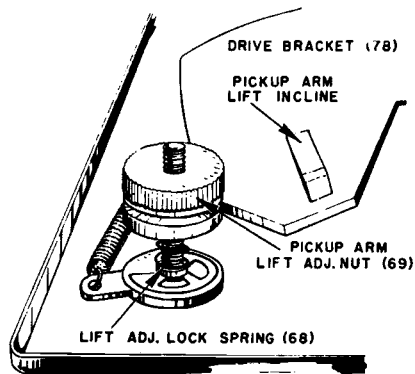

Figure 6. Adjusting Pickup Arm Height.
With the record changer out of change cycle and the pickup arm clear of the turntable, adjust the pickup arm lift adjusting nut (69) (see figure 6), so that the needle rests  $1/16''$  above the top of the changer pan. Turning the nut (69) clockwise raises the pickup arm; turning it counter-clockwise lowers the pickup arm.